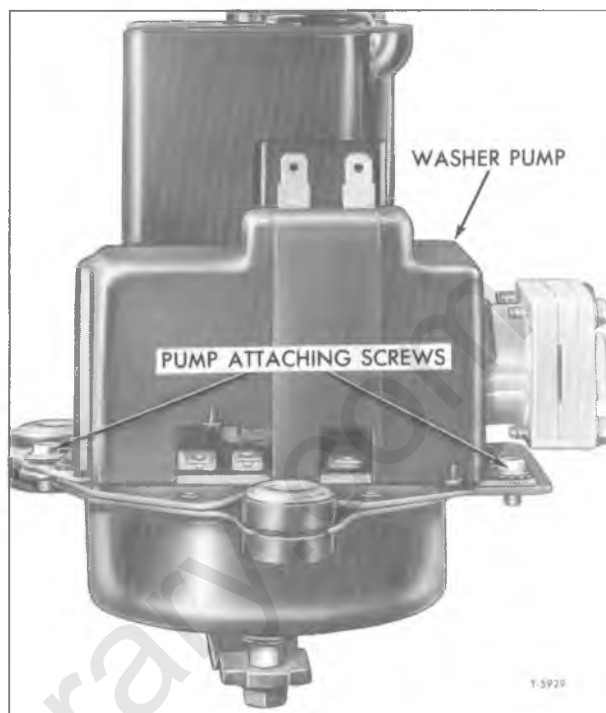
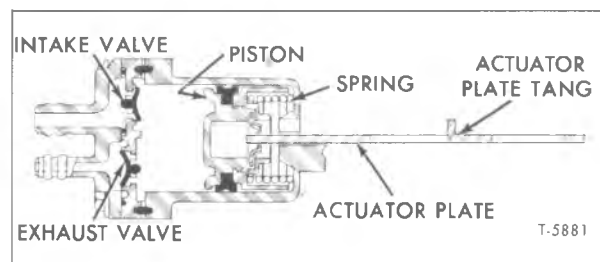

Figure 15—Washer Pump Attaching Screws
Figure 18—Washer Pump Piston and Valve Assembly
The "E" type washer pump used on the "E" type rectangular non-depressed park wiper motors resembles previous models somewhat in physical appearance but it has been changed considerably internally. Refer to figure 15 for view of pump mounted on wiper motor assembly. Past model pumps used a bellows system for the pumping mechanism whereas the new design incorporates a piston enclosed in a plastic cylinder housing. The piston type pump provides higher pressures and increased volume (fig. 18).
#### PUMP REMOVAL (Figs. 15 and 16)
**PUMP INSTALLATION** (Figs. 15 and 16)
4. Attach a hose to the large or intake pipe. You should be able to blow, but not draw, through intake pipe (fig. 18).